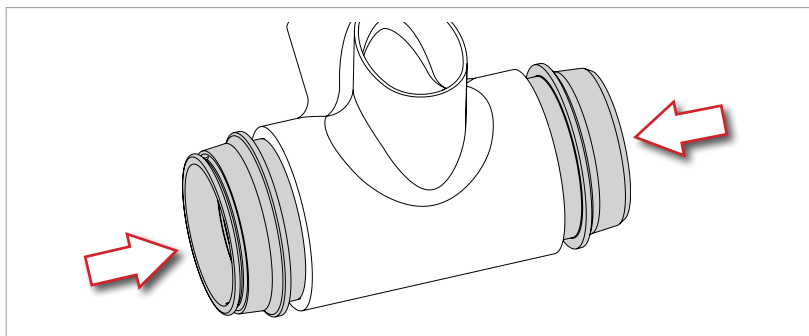

Fig.1
- Press both bottom bracket cups into the bottom bracket until the bottom bracket cups encounter resistance and the O-ring enters the bottom bracket itself and is no longer visible (Fig. 1).